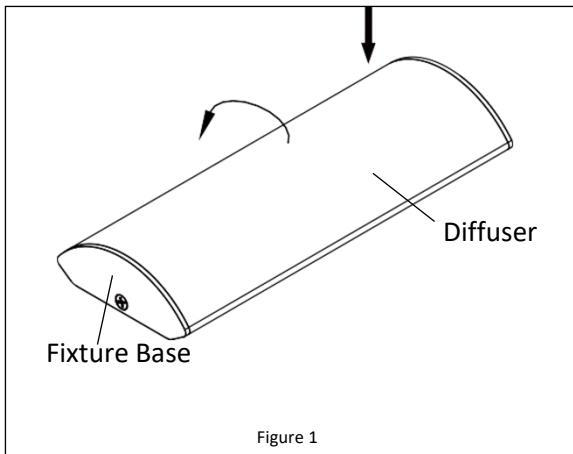

Figure 1
2. Remove diffuser by rolling it off of the edge lip all the way down 1 side. *See Figure 1.*